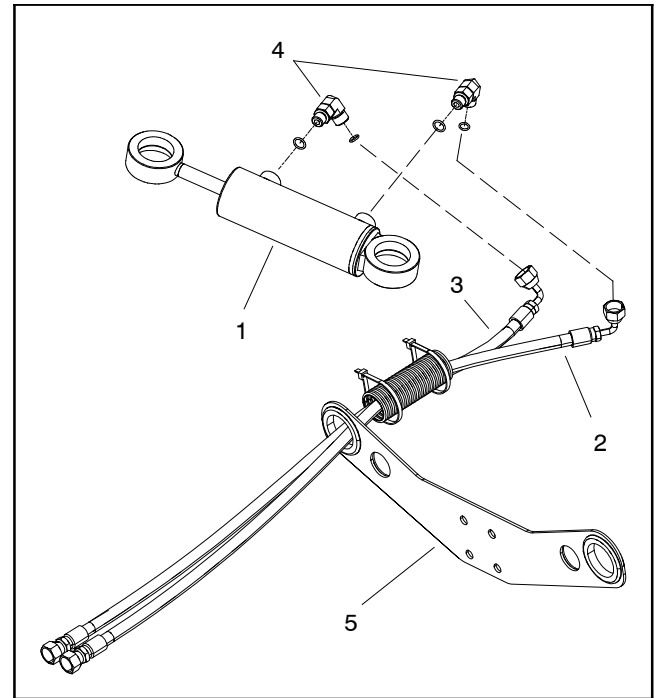

Figure 82
4. Remove hydraulic hoses from steering cylinder (Fig. 82).